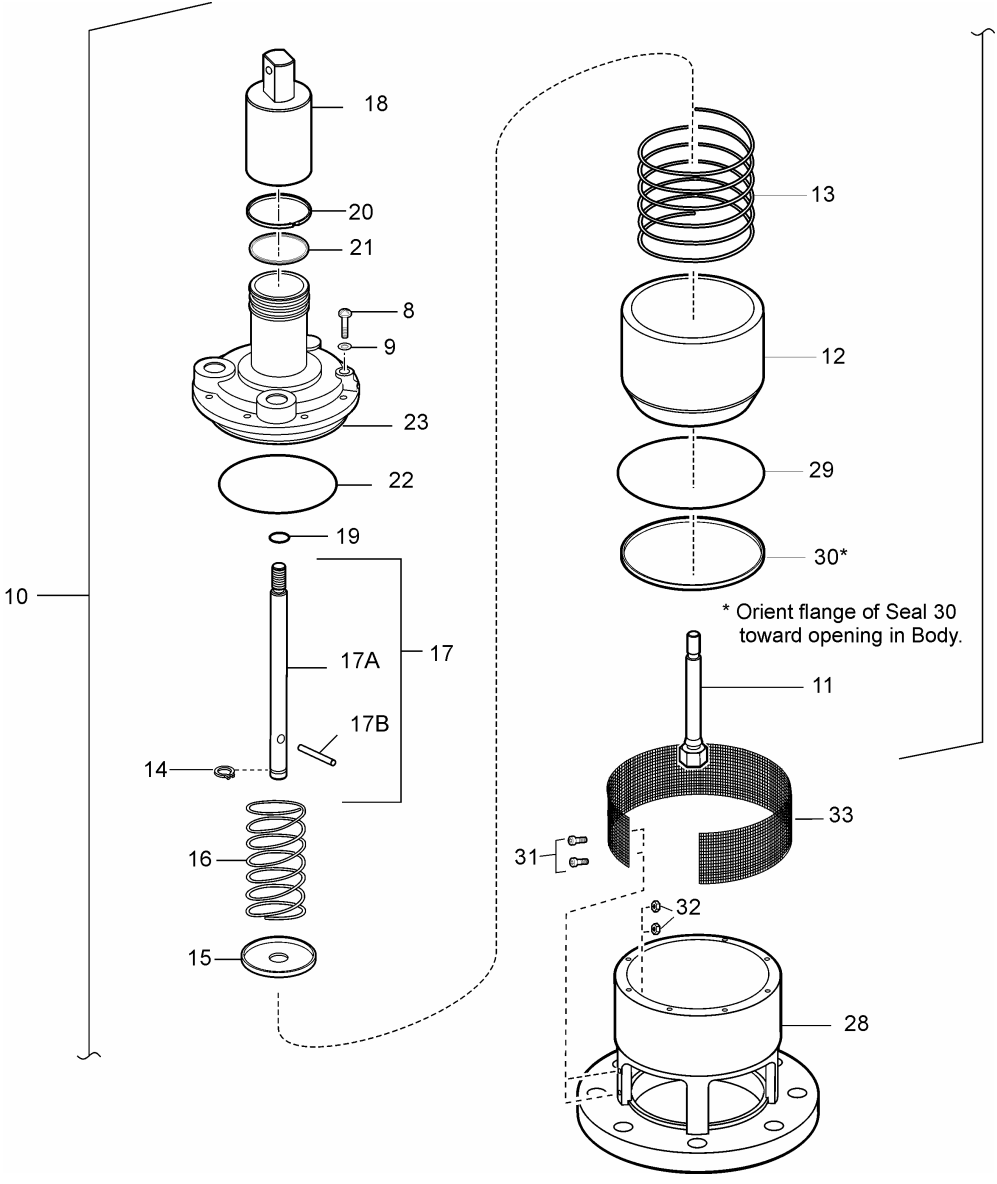

Figure 2A
- 6.1.4 When installing the Seal (30) onto O-ring (29) in Body (28) be sure to smooth the surface evenly with a finger. See note on Figures 2A and 2B.